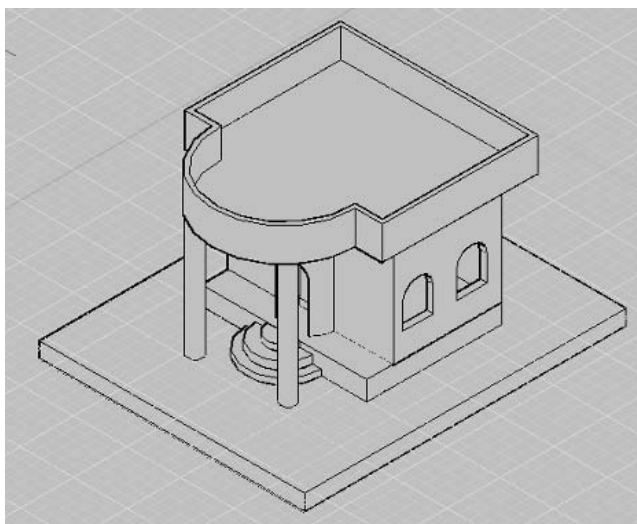

Figure 30-96 Model for Example 5
In this example, you will create and animate the model shown in Figure 30-96 and save this animation to a file.
1. Create the model shown in Figure 30-96.